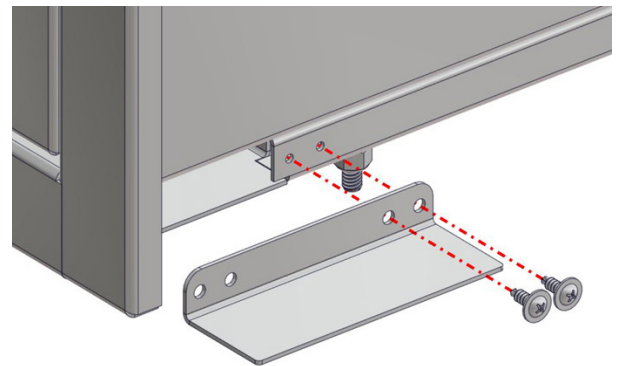

Fig. 26: Attach Base Trim
5. Position the Base Trim Plate on either the bottom left or right cabinet and attach with the two provided screws (Figs. 26 and 27).